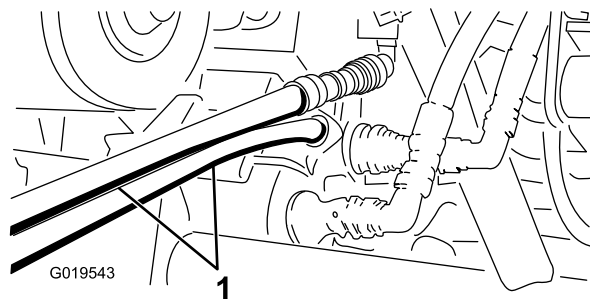

Figure 77
5. On the other machine, connect the 2 hoses to the coupler still in the coupler bracket (connect the top hose to the top coupler and the bottom hose to the bottom coupler) (Figure 77).